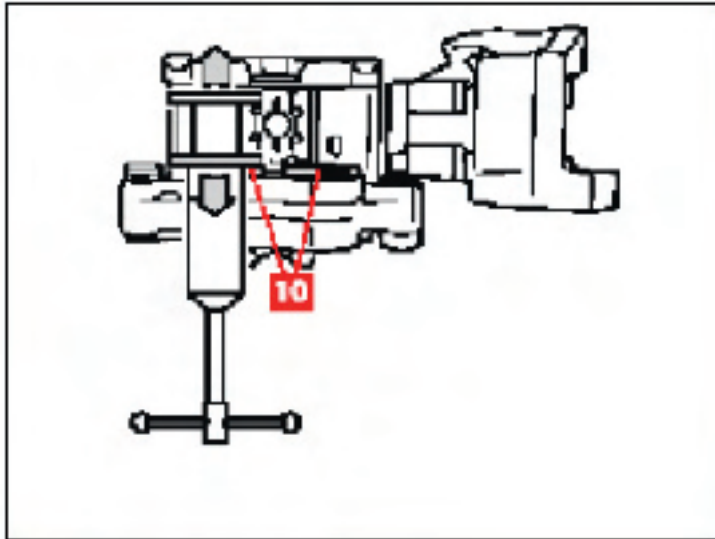

Figure 20 — Move the pistons backward.
7. Remove worn pads (9) (see Fig. 20).
11. Move the pistons backward using a retractor or other suitable tool (see Fig. 20).